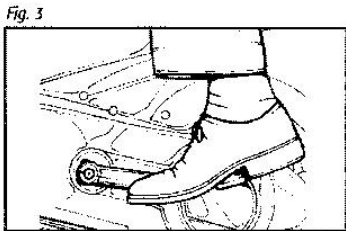

Fig. 3
- place your right foot on the kick-starter (see fig. 3) and push down slowly until you feel that the kick-starter is properly engaged. The kick-starter is properly engaged when the lever is in the highest position and offers the strongest resistance.